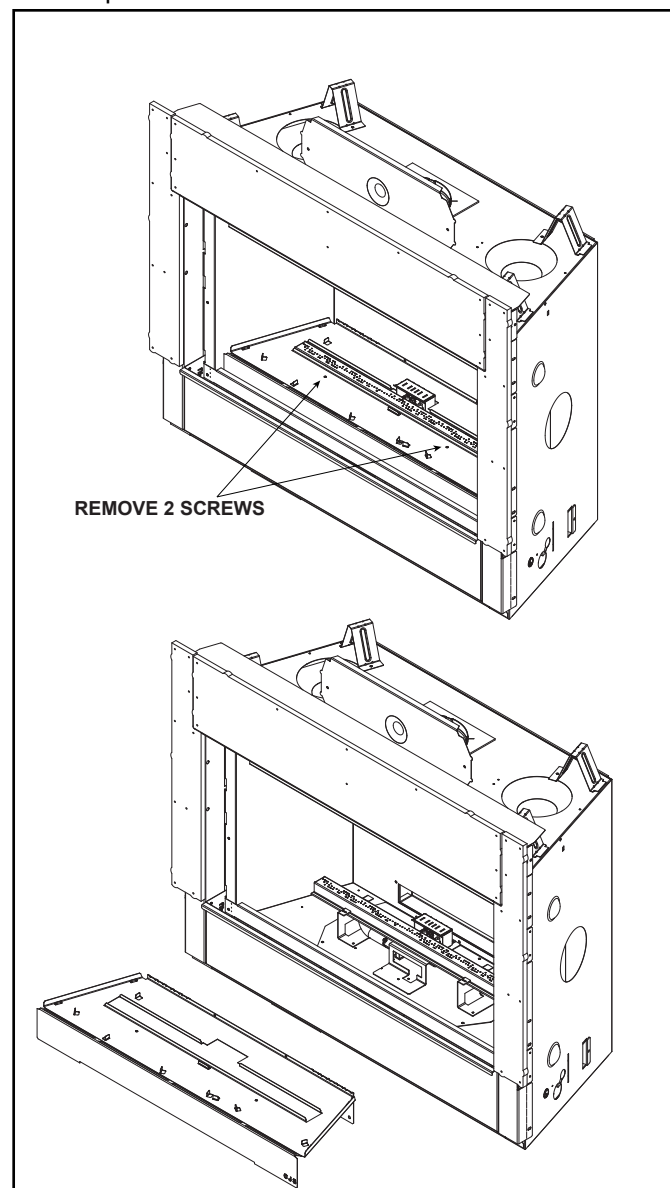

Figure 9.1 Basepan Removal - JADE42IN-B Shown
- Locate and remove the two screws that secure the basepan to the appliance. See Figure 9.1. Remove basepan. Retain screws.